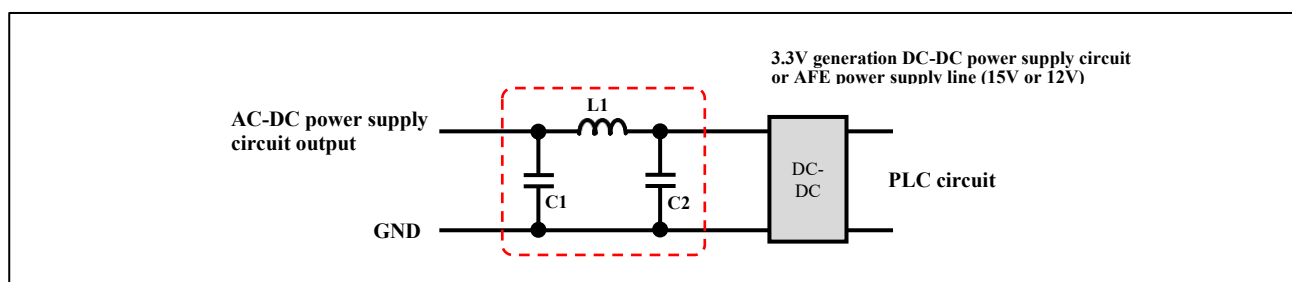

Figure 1-9 Example of input noise filter for DC power supply circuit
- To remove noise from the AC-DC power supply circuit and to reduce the influence of switching noise generated on the DC power supply circuit on other power supply circuits, we recommend inserting a noise filter consisting of an LC circuit at the DC power supply circuit input section of the 3.3V generation DC-DC power supply circuit and the AFE power supply line (15V or 12V). An example of a circuit for an input filter for a DC power supply circuit is shown in Figure 1-9, and an example of circuit constants for a noise filter at the input section of a DC power supply circuit is shown in Table 1-3.